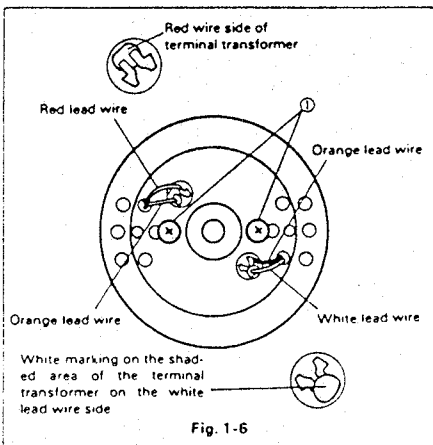

Fig. 1-6
- (1) Remove the solder from the four lead wires that connect the video heads to the terminal transformer. (Perform this removal quickly so as not to damage the insulation of the lead wires.)
- (2) Remove the two ① screws, then lift the rotating drum assembly upward and remove it.
- (3) Use alcohol (isopropyl alcohol) to clean the flange surface of the lower drum and the surface on the new rotating drum assembly that will come into contact with the flange. Position the rotating drum assembly so that the wire is aligned with the white marking on the shaded area of the terminal transformer, as shown in Fig. 1-6, then carefully slide it down into place.